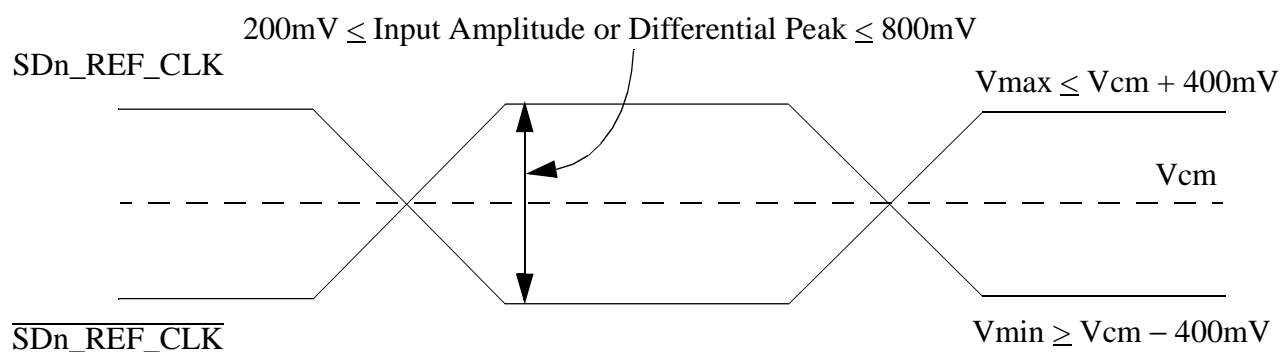

Figure 47. Differential Reference Clock Input DC Requirements (External AC-Coupled)
- For **external AC-coupled** connection, there is no common mode voltage requirement for the clock driver. Since the external AC-coupling capacitor blocks the DC level, the clock driver and the SerDes reference clock receiver operate in different command mode voltages. The SerDes reference clock receiver in this connection scheme has its common mode voltage set to SGND\_SRDSn. Each signal wire of the differential inputs is allowed to swing below and above the command mode voltage (SGND\_SRDSn). Figure 47 shows the SerDes reference clock input requirement for AC-coupled connection scheme.